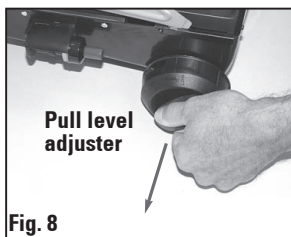
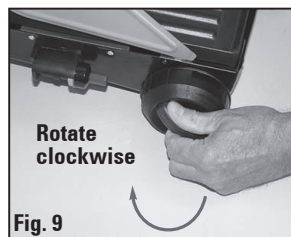

Fig. 8
Fig. 9
STEP 5. To adjust the slope of the grilling surface, grasp the spring loaded level adjusters on the right and left sides of the grill (**FIG 8**). Rotate the adjusters until they lock into place (**FIG 9**). Adjust the slope based on the type of food being grilled. The sloped position is for grilling meats so the fat drains into the drip tray. The flat position is for vegetables or to use the giddle surface.